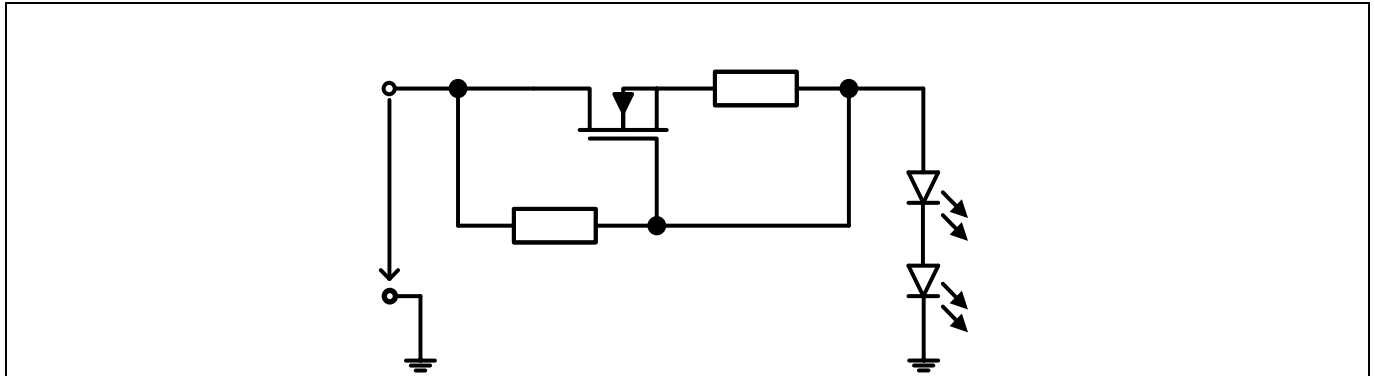

Figure 12 Depletion MOSFET as a linear LED driver
- A constant current source can also be used as a linear LED driver for driving LED strings typically up to 20 mA. Figure 12 shows a linear LED driver circuit using a depletion MOSFET and a series resistor.